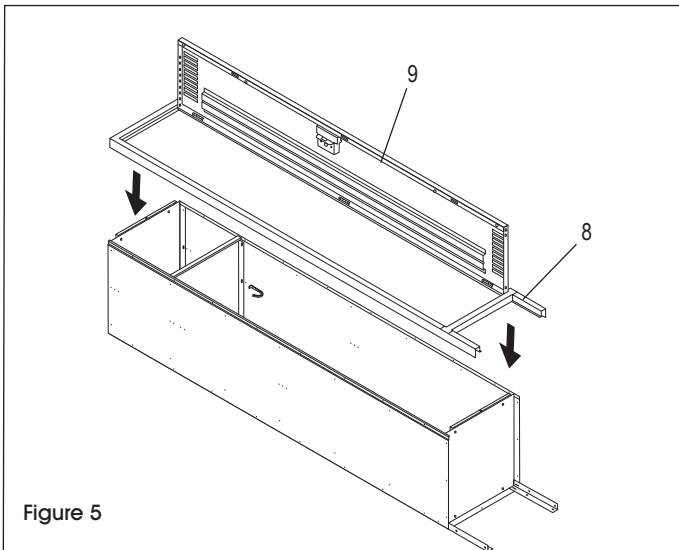

Figure 5
8. Place door and frame assemblies (8 and 9) over the locker body. Make sure body sides are inside the frames, not between the frames. Attach top to frame header and the bottom to frame sill using one bolt each. Finish attaching the frame using 16 bolts and nuts. (See Figure 5)
11. To attach coat rod, place non slotted end of coat rod (10) over projecting tab of top left coat hook. Slide the slotted end of coat rod over the projecting tab in the right coat hook and turn 90 degrees to secure it.